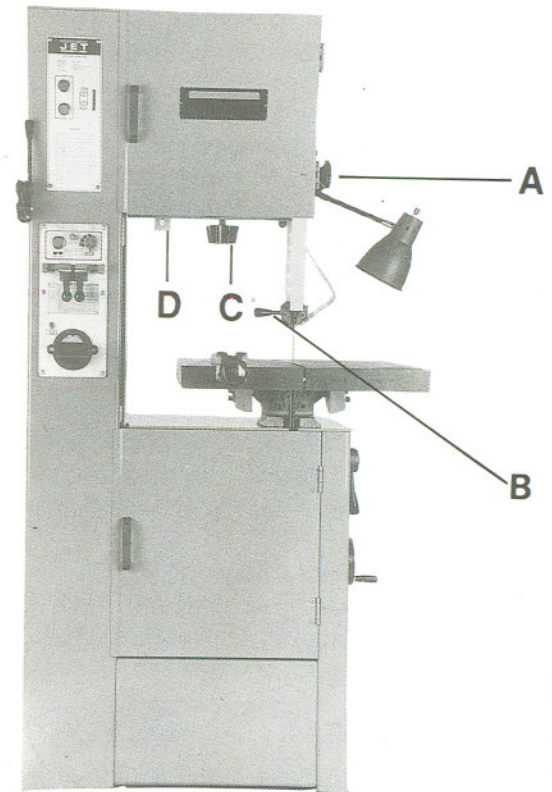

Figure 6
1. Raise upper blade guide by loosening lock knob (A, Fig. 6) and lifting blade guide handle (B, Fig. 6) to it's highest position.
3. To tighten blade, turn handwheel (C, Fig. 6) clockwise.
5. Use the blade tension indicator (D, Fig. 6 – VBS-1610 only) as reference only. Blade should be tensioned using the finger pressure method.